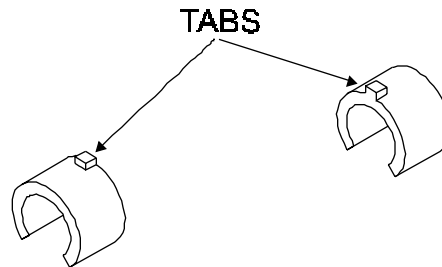

Figure 5-12. Carrier Bushing Installation.
5. Orient the new Bushing as shown in Figure 5-12 so that the metal tab on top of the Bushing goes into the Carrier Assembly first.